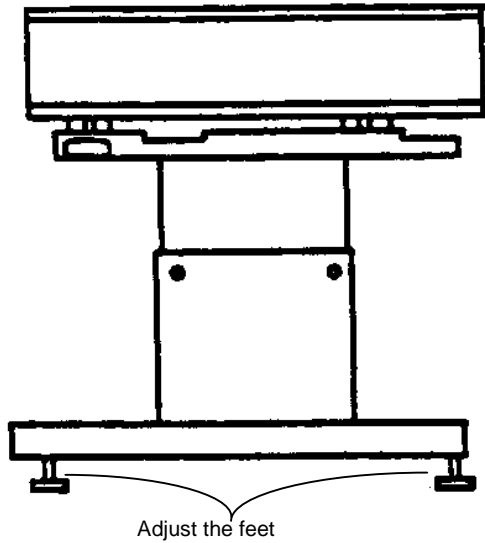

**Figure 4. Installing the Stop Bracket**
9. (Figure 4): Install the Stop Brackets on the right and left sides of the 8855 rear side covers using the existing top two holes that were used to attach the Support Arms for the 30 sheet catch tray.